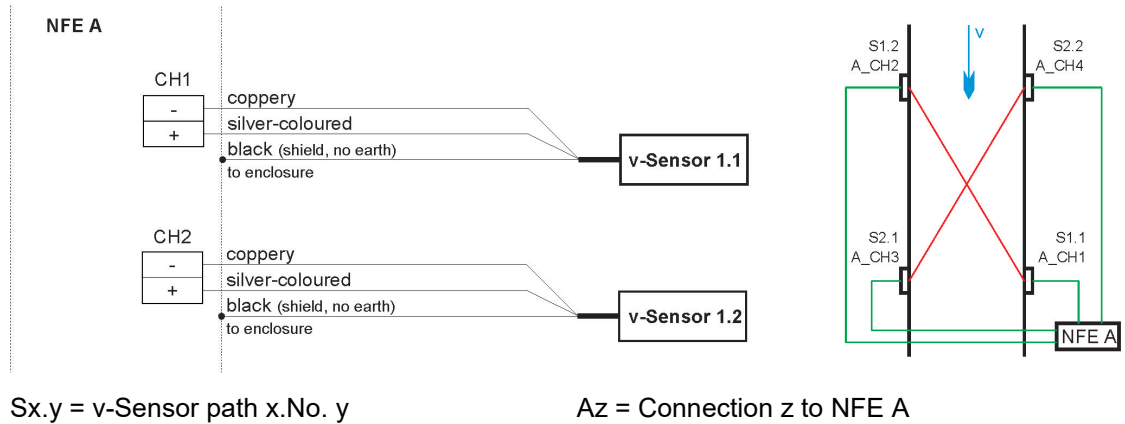
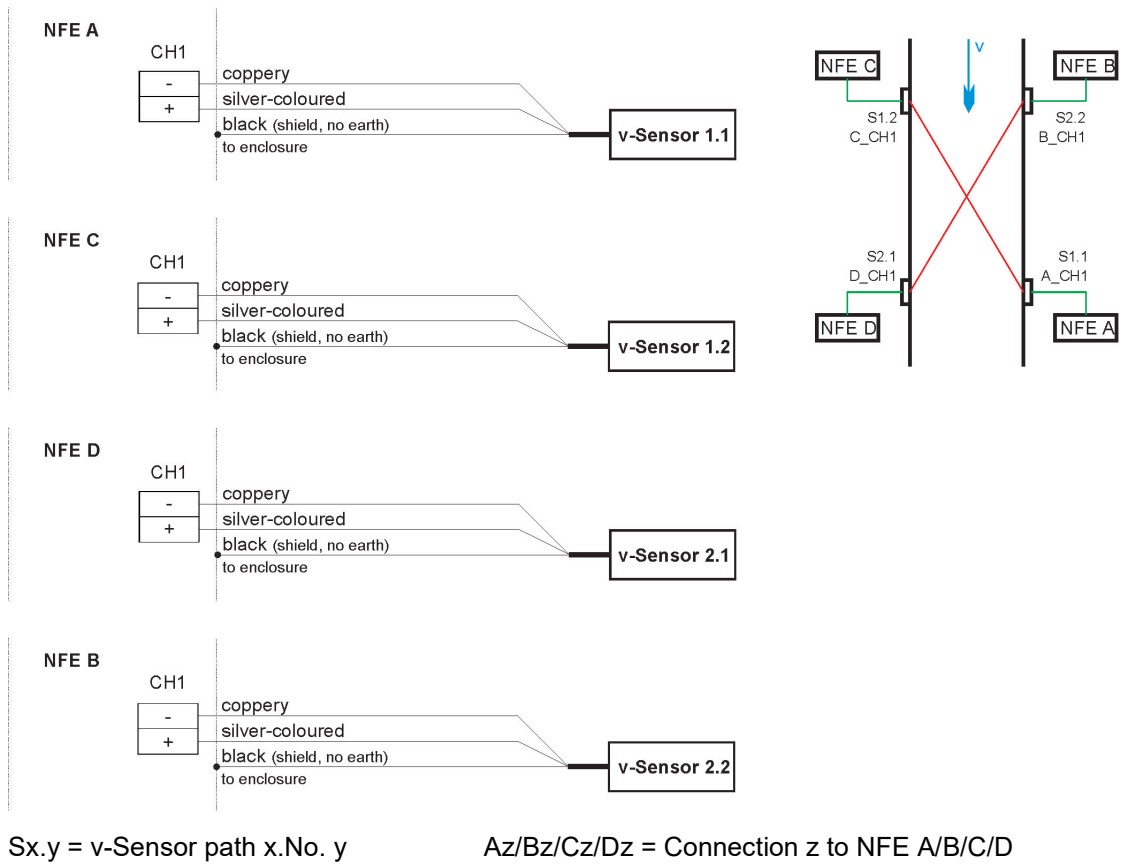

Fig. 18-16 Sensor connection diagram for single NFE
Fig. 18-19 Sensor connection diagram paths 1 and 2 with four NFEs
8. Connect the sensor cable to the terminal strip (possibly using a screwdriver as aid) according to the connection diagram (Fig. 18-16 to Fig. 18-19).
Connect all paths featuring uneven path numbers (1, 3, 5....) up to path 15 (NFE 8 sensor version) or up to path 31 (NFE 16 sensor version) to NFE A and NFE C according to the previous examples (Fig. 18-19) (see also Table 5).